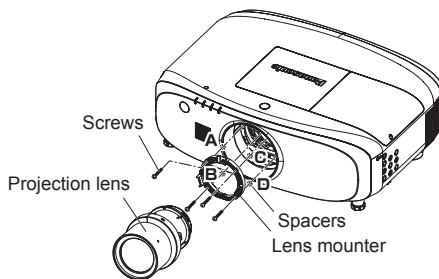

Fig. 2
- 5) Insert the spacers between the body of the projector and the lens mounter, as shown in Fig. 2.